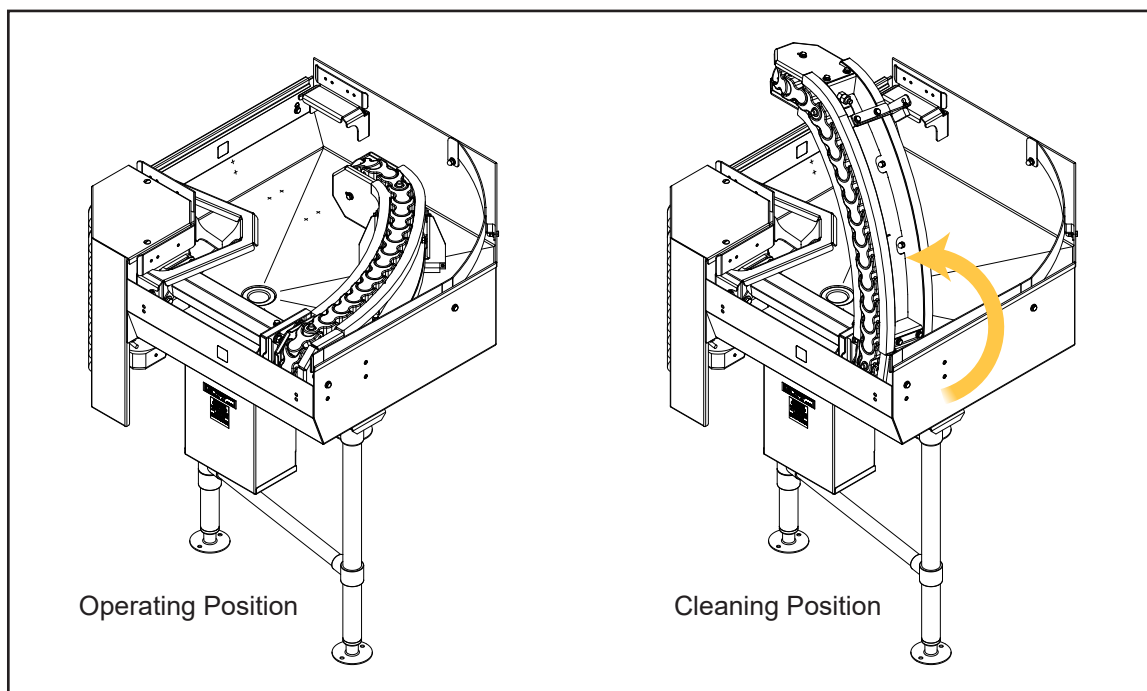

Fig. 7 - Chain Conveyor Test
6. Lift up chain conveyor to test the loader/unloader drive stops, (see Fig. 7).
3. Lift up chain conveyor to clean underside and table, (see Fig. 7).
9. Return chain conveyor to operating position, (see Fig. 7).